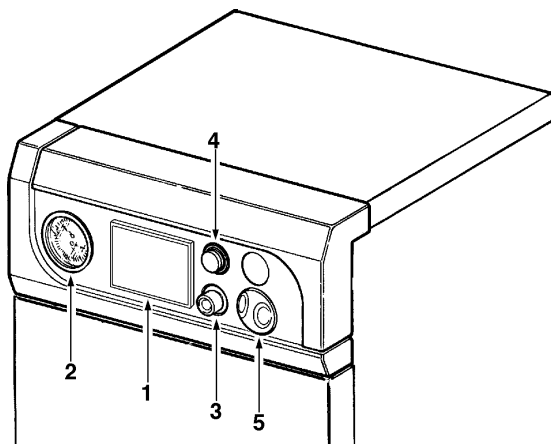

Fig. 1
#### Regulating thermostat, manual resetting 3 (fig. 1)
#### Central thermostat 5 (fig. 1)
- 3) Give electric power to the boiler and switch on the main switch 4 (fig. 1) on the boiler control panel.
To turn off the unit for a short period it is enough to switch off the switch 4 (fig. 1) on the control panel.